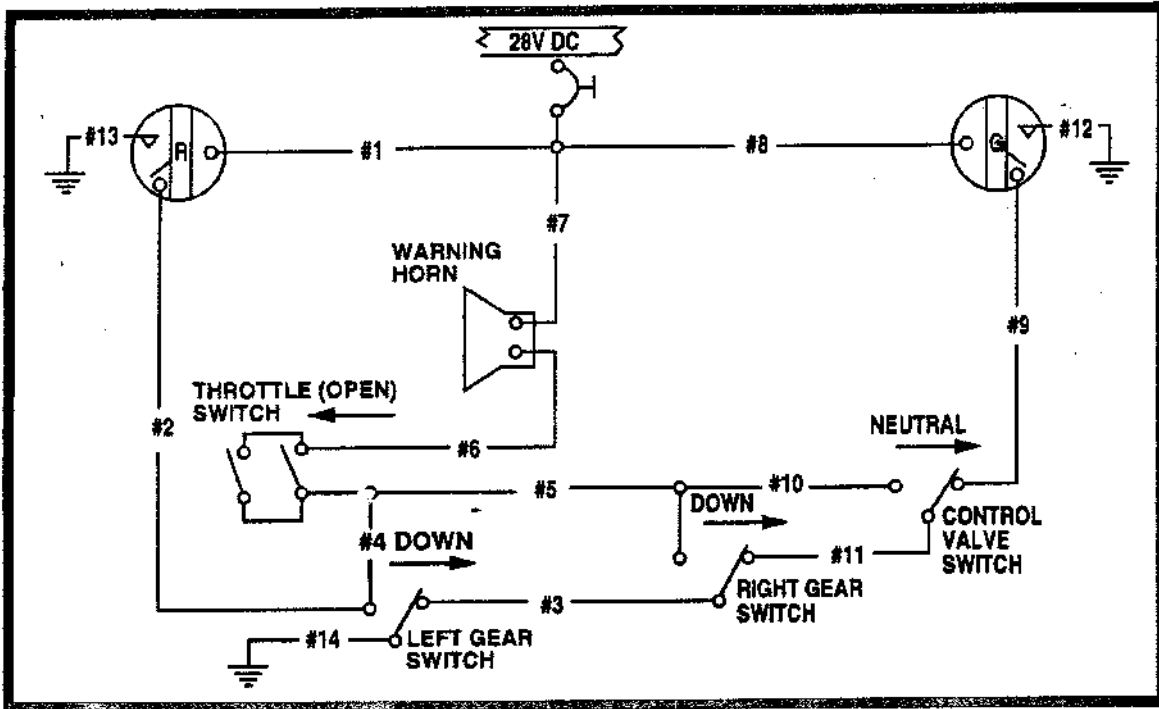

Fig. 9.20. Landing Gear
98. (Refer to figure 9.20) When the landing gears are up and the throttles are retarded, the warning horn will not sound if an open occurs in wire
99. (Refer to figure 9.20) The control valve switch must be placed in the neutral position when the landing gears are down to